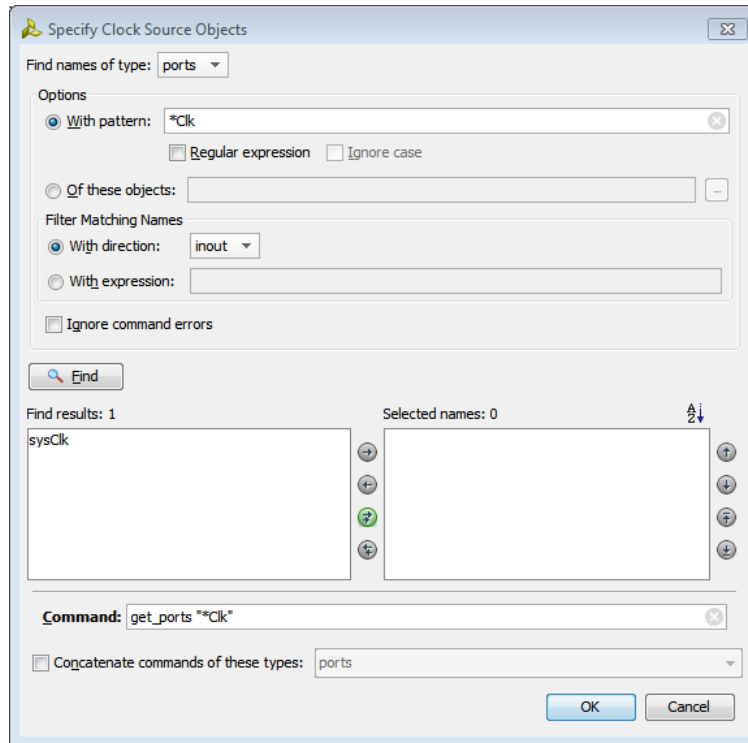

Figure 9: Specify Clock Sources
- b. For the Source Objects field select the browse button () to bring up the Specify Clock Sources Objects search window as shown in Figure 9: Specify Clock Sources.